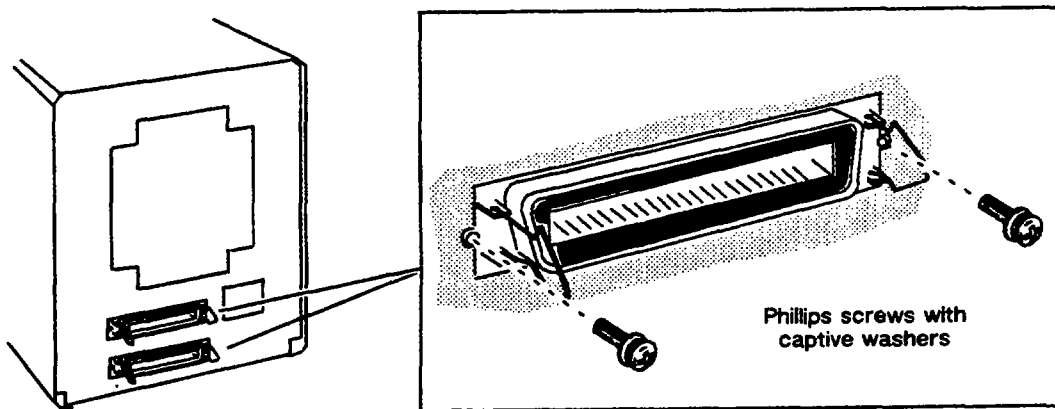

Figure 4-9 Removing the Internal SCSI Bus Connectors' Screws
6. Remove the two screws that attach the bottom and top SCSI bus connectors to the back of the subsystem, as shown in Figure 4-9. Carefully lift the internal SCSI bus cable out of the subsystem.